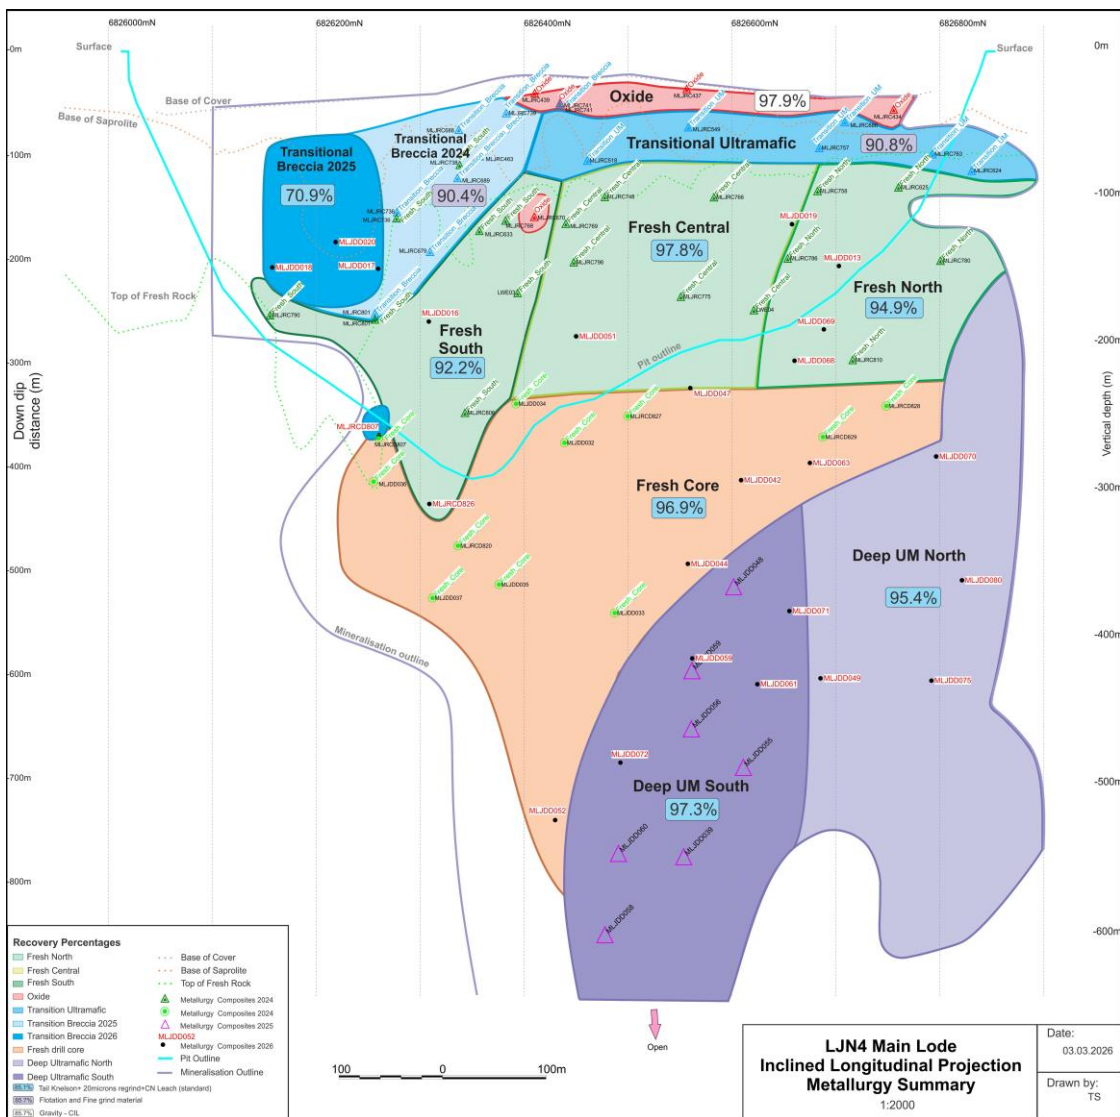

Figure 1: LJN4 seven metallurgical samples mineralisation types
- Recently completed testwork showed improved overall recovery across all composites, which ranged from 70.9% to 97.8%, averaging 92.0% (Figure 1).